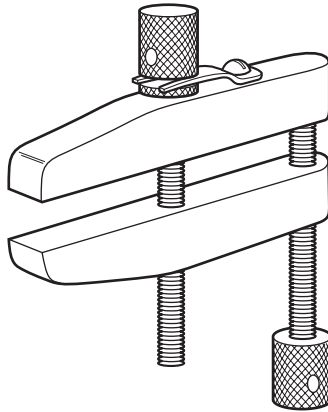

Fig. 1
- 2 Fig. 1 shows a metalworking device.